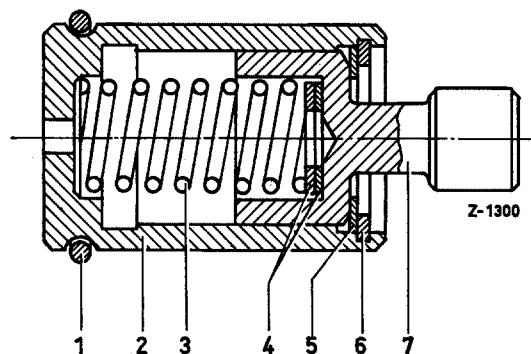

Figure 07-1/3
If the adjustment travel value is too high or too low, the position of the stop pin (7) in the spring capsule housing (2) should be varied by placing washers (5) between stop pin shoulder and lock ring (6) (see Figure 07-1/1).